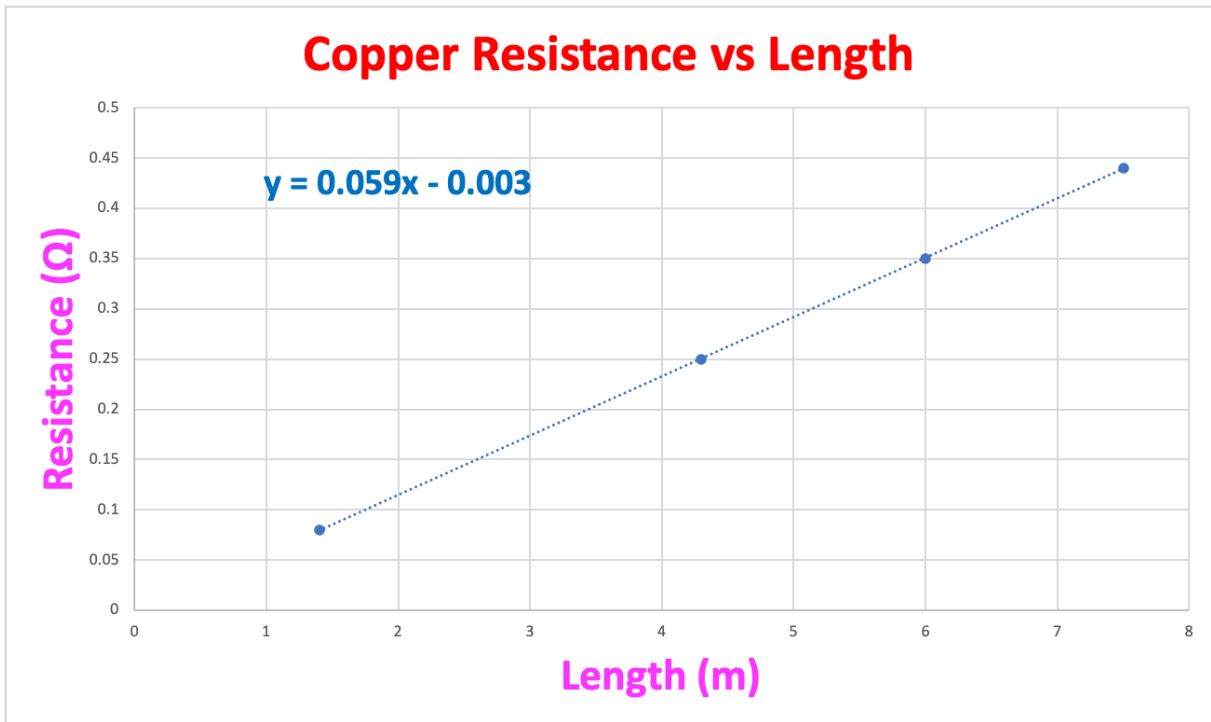

Figure 1: Example graph of Resistance versus Length.
1. Using your data in Table 2, create a scatter graph of Resistance, R on the Y-axis versus Length L on the X-axis for each of the 4 types of wires. Label the x-y axes including units and Title your graph with Metal Resistance vs Length. See Figure 1 for an example graph. For example, “Copper Resistance vs Length“. Comment on your graphs below.